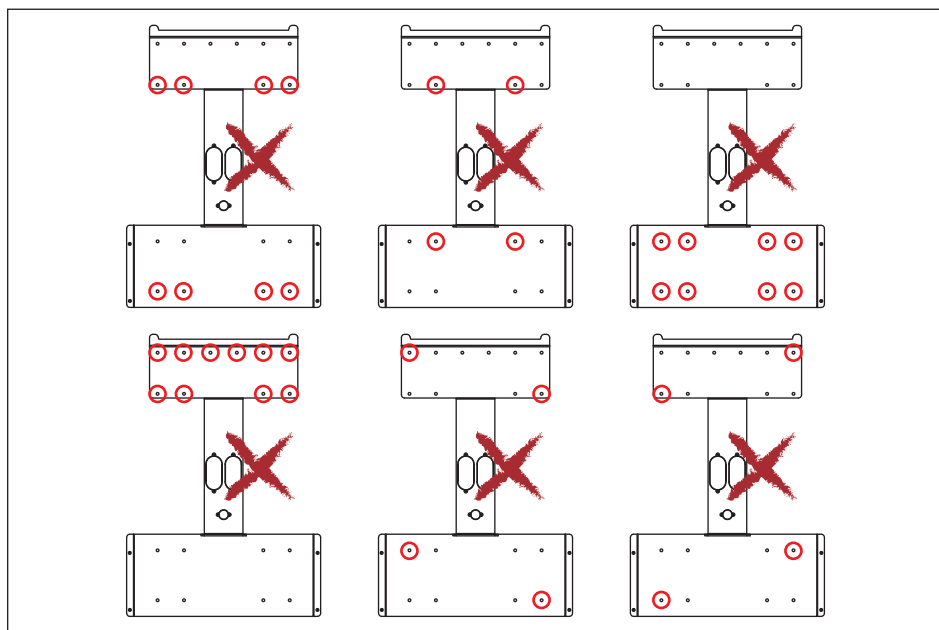

Figure 3-3 : Prohibited position for screws
4. **Figure 3-3** through **3-7** describes correct mounting installation.